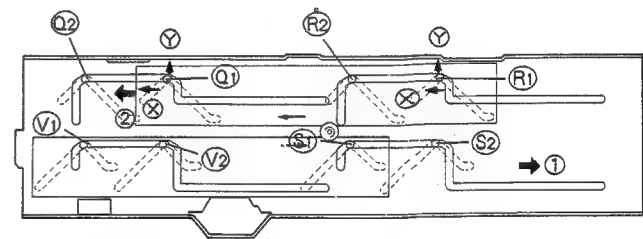

Fig. 10-9.
3. In Fig. 10-9, there is parallel movement pressing against the grooves for movement from $\textcircled{Q1}$ to $\textcircled{Q2}$, $\textcircled{R1}$ to $\textcircled{R2}$, $\textcircled{S1}$ to $\textcircled{S2}$, and $\textcircled{V1}$ to $\textcircled{V2}$.